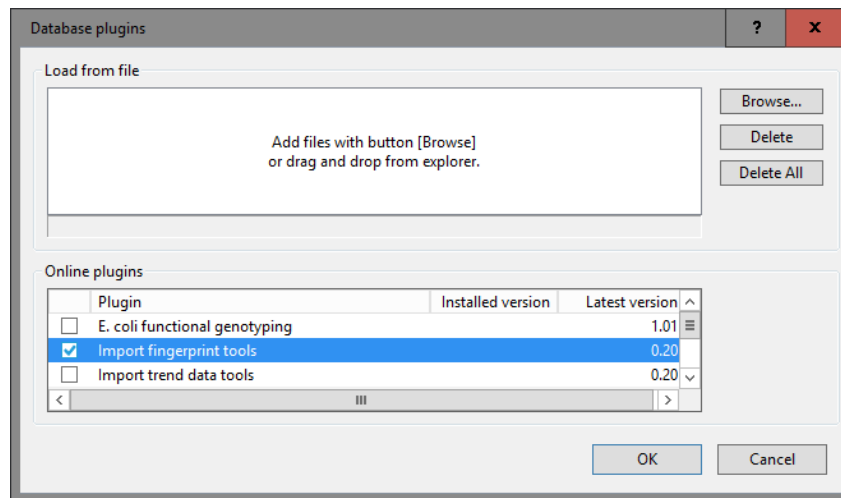

Figure 1.3: Adding the *Import fingerprint tools plugin*.
3.2 Check the box that corresponds to the *Import fingerprint tools plugin* (see Figure 1.3) and press <OK>.